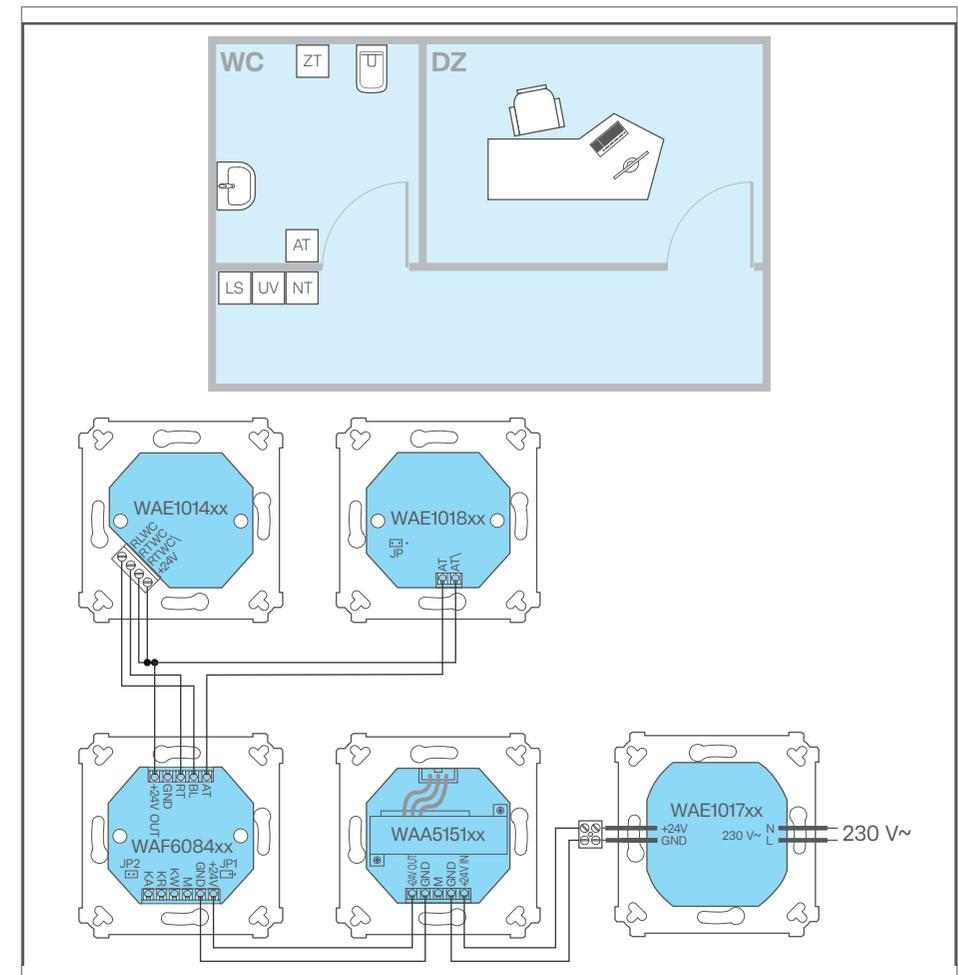

Figure 15: Wiring of standard WC system
- Connect devices according to wiring diagram (Figure 15).